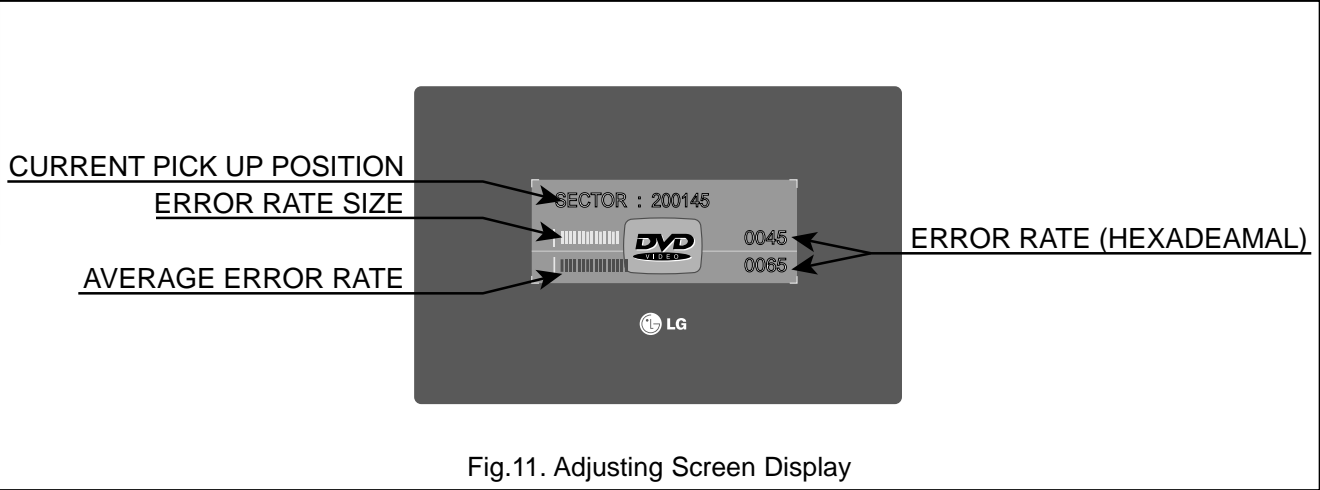

Fig.11. Adjusting Screen Display
2. Wait Until the Sector Display is about 200,000 (Fig.11)